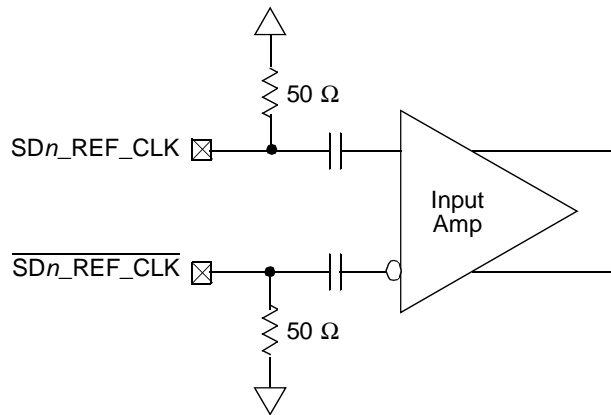

Figure 46. Receiver of SerDes Reference Clocks
- The `SD_REF_CLK` and `SD_REF_CLK` are internally AC-coupled differential inputs as shown in Figure 46. Each differential clock input (`SD_REF_CLK` or `SD_REF_CLK`) has a $50\text{-}\Omega$ termination to `SGND_SRDS` followed by on-chip AC-coupling.